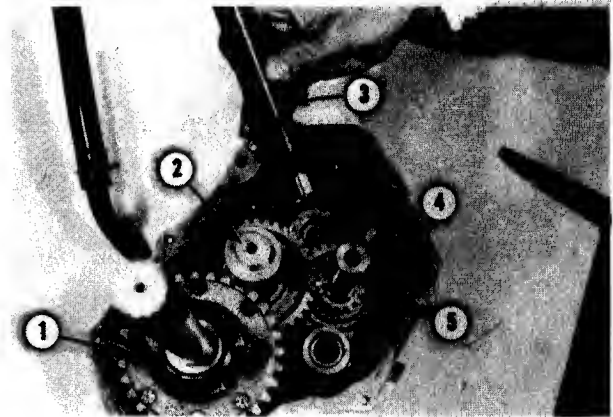

FIG. 4.8-SHAFT DETAIL
9. Refer to Fig. 4.8 and install the following: